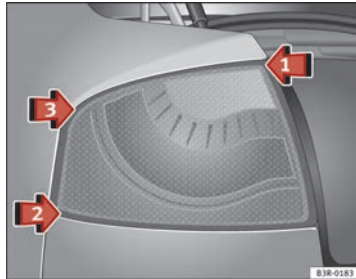
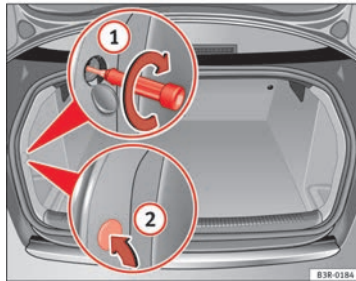

Fig. 214 Fitting the tail light unit
Fig. 215 Luggage compartment: Location of the bolt securing the tail light unit
- First place the tail light unit in → Fig. 214 arrow ① in the housing.
- Gently press the tail light unit against the housing, first in position ② and then in position ③, until that the clips engage firmly in the rubber mountings.
- Apply gentle pressure to the upper part of the tail light unit and secure using the screwdriver, from the luggage compartment → Fig. 215 ①.
- Replace the cover ② in the interior trim.